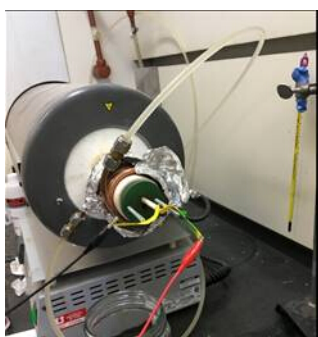

Figure 5: Sample assembly, in the hood fume, with electrodes attached.
6. Attach the electrodes to the assembly as shown in **Figure 5**.